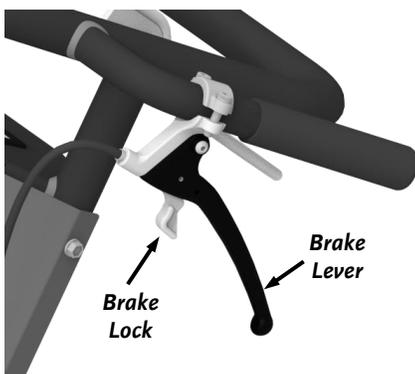

Figure 13
4. Lock the Brakes by squeezing the Brake Levers (**Figure 13**).
10. Unlock the Brakes by pulling back on the Brake Locks and releasing the Brake Levers (**Figure 13**).